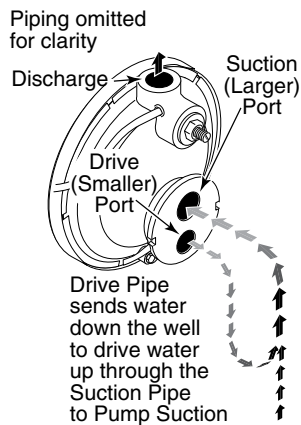
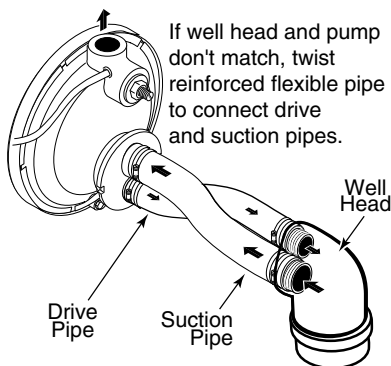

Figure 1 – Drive and Suction Functions
Figure 2 – Reversed Connections to Well
2. If your old pump has the suction pipe (the larger port – See Figure 1) below the drive port, you will need to install flexible pipe between the well head and the pump so that the connection will be correct (See Figure 2).